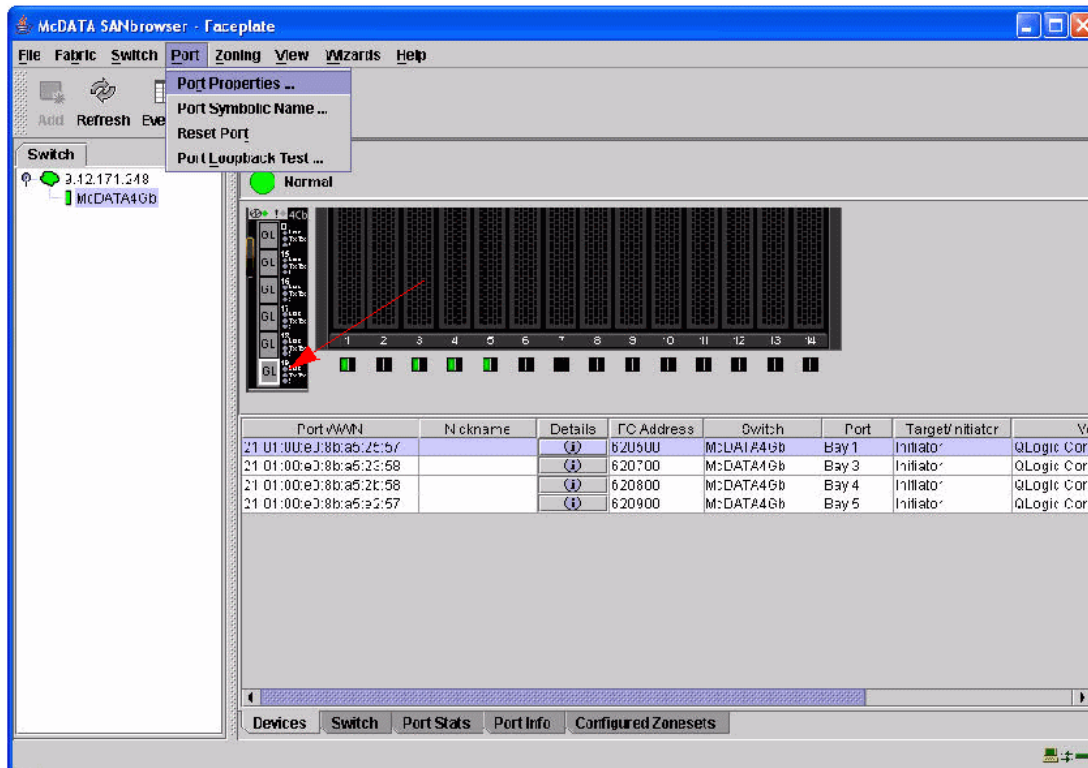

Figure 6-6 McDATA SANbrowser - Faceplate window
- From the McDATA SANbrowser - Faceplate window, select your desired E-Port. Next, select **Port** → **Port Properties** (Figure 6-6). In our example, we designated port 19.